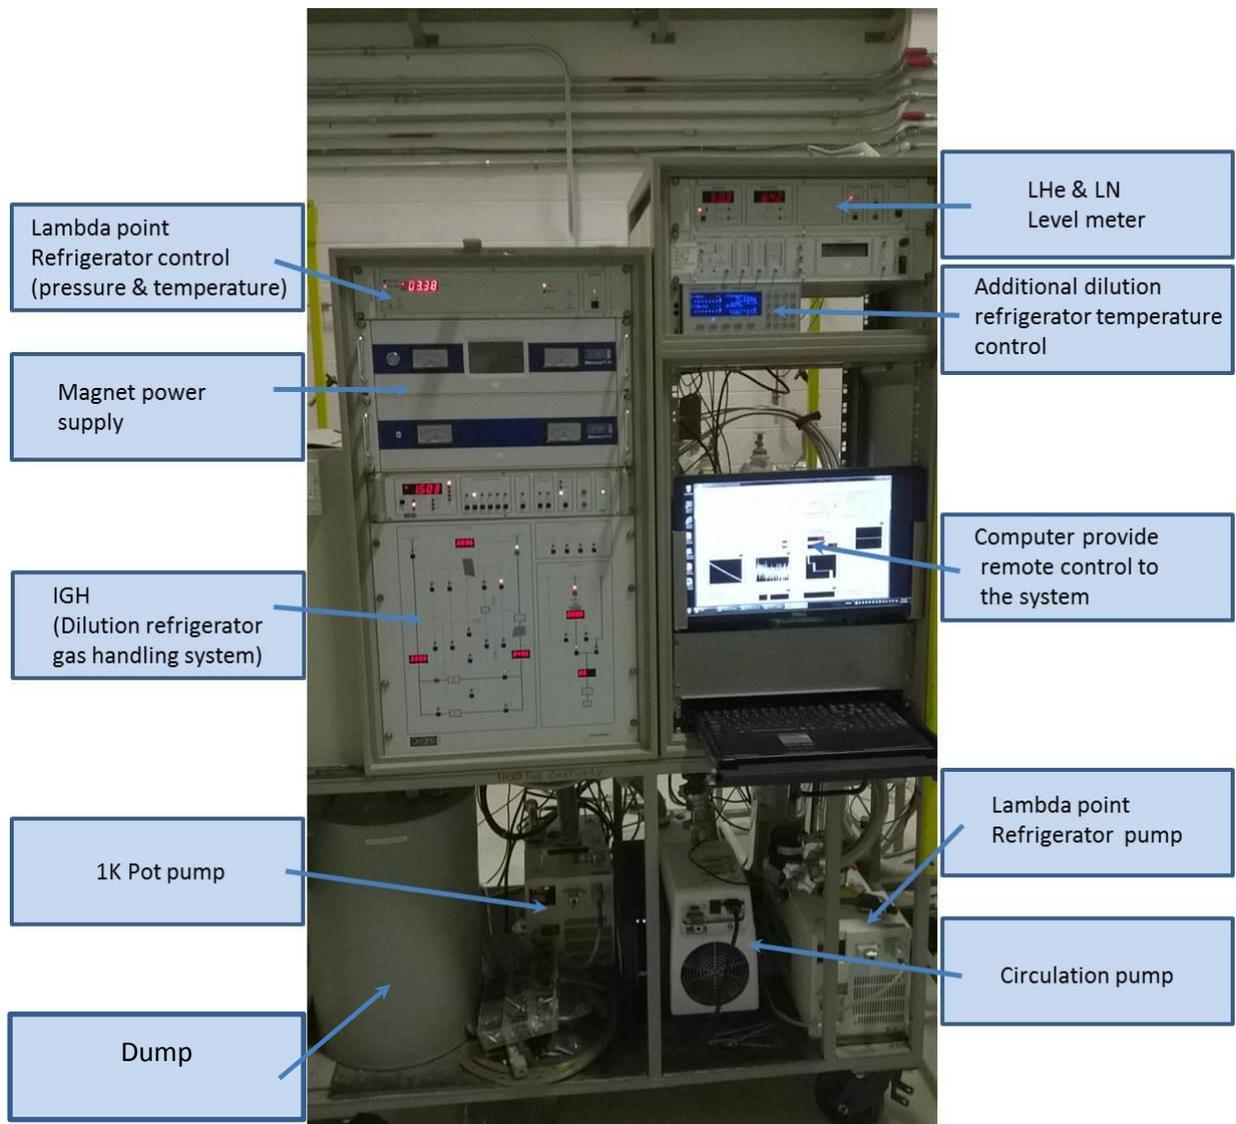
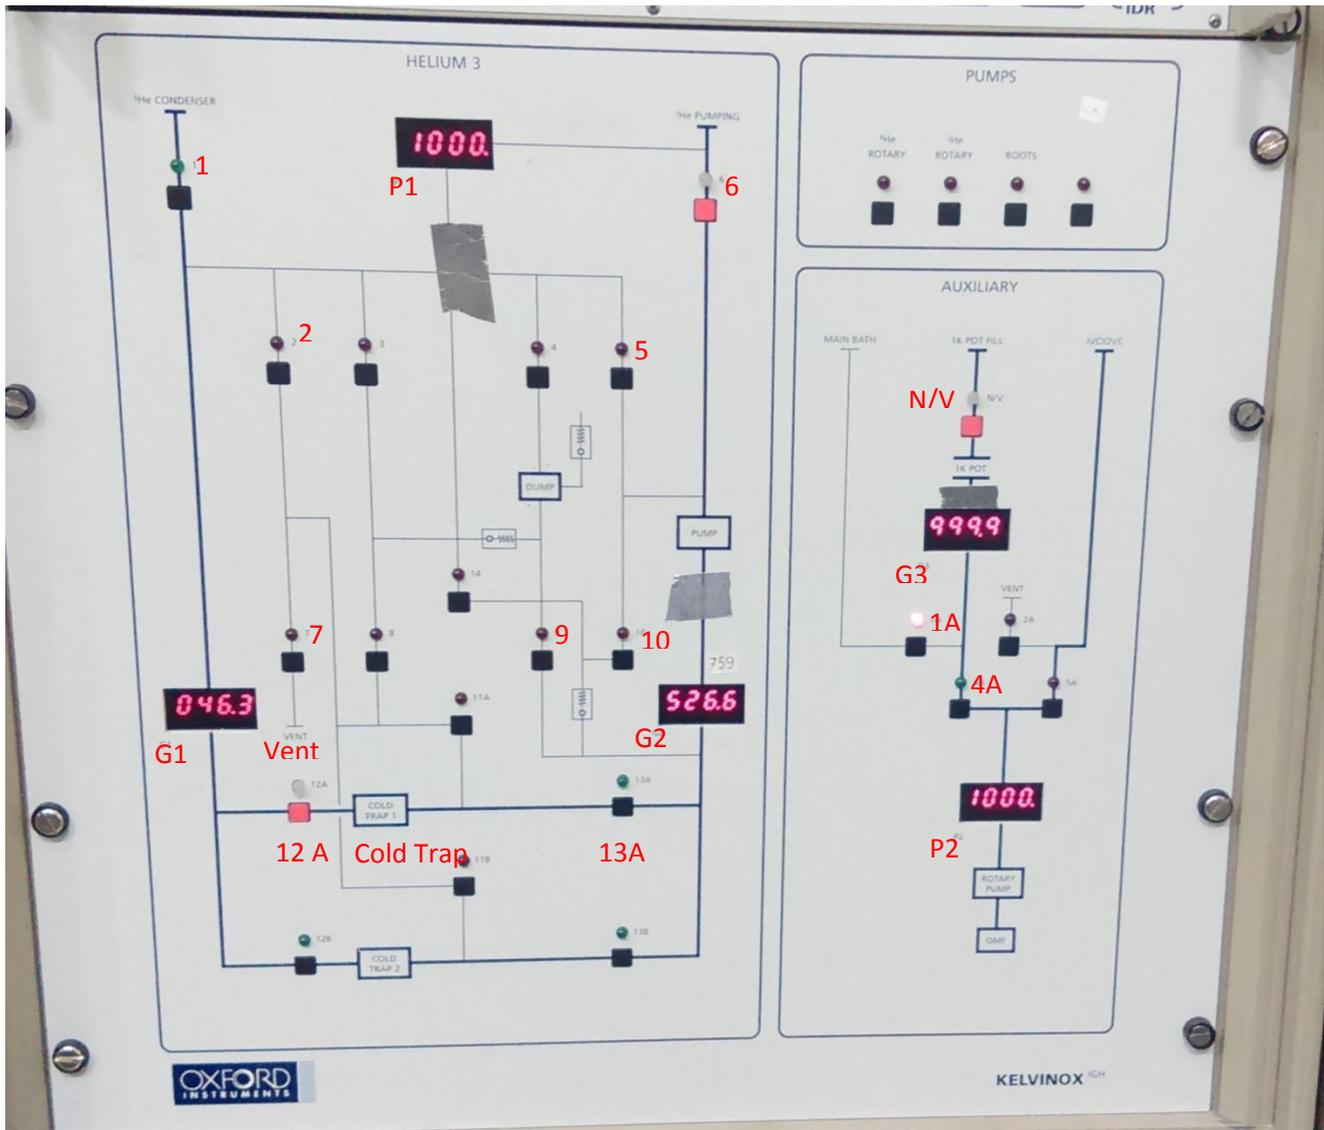

Fig.1
Fig.2
The image of the cart with electronic devices used for “Magnet” control shown on Fig.1.
- Turn on the Circulation Pump Fig.1
- Completely Open 6, open 5, and 1 (Fig.2). Pump the He3-He4 system till pressure on the P1 drop down to ~ 0.03 . Pressure on the G2 should be lower than 999.9, otherwise open Valve 9, and, if necessary, Dump Manual valve Fig.1.
- Nitrogen "Cold Trap 1" shown on the Fig.2 and physically located behind the cryostat has to be filled with LN.
- Turn on the 1K Pot pump Fig.1
- Turn on the Lambda Point Refrigerator pump Fig.1
2. Turn on 1K Pot pump, Lambda point Refrigerator pump and Circulation pump (Fig.1).
3. Transfer to the Nitrogen volume has to be stopped when LN level is 100% on LN&LHe meter (Fig.1). Transfer to the Helium volume has to be stopped when magnet temperature on the Lambda Point Refrigerator control drop down from 99K to ~85K and kept at this level.
2. Start pumping 1K Pot: Turn 1K Pump on; Open 4A; Open manual 1K Pot Valve on top of the cryostat; Open N/V (Fig. 2) for ~10%, P2 is approximately 5-8.
- c. Connect external Rough pump to the Vent (Fig.2) which is physically located at the rear side of IGH.